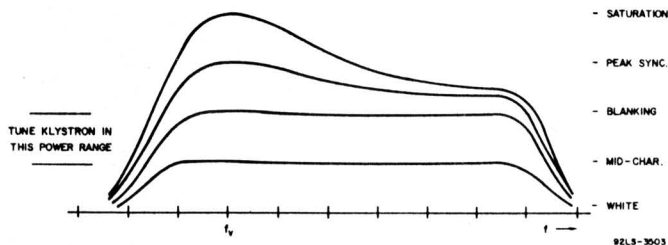

Figure 4 — Bandpass at various power levels
3. Vary the RF drive between white and blanking level. The bandpass should remain flat but show enhancement in the carrier vicinity with higher output power in accordance with **Figure 4**.
9. The bandpass should remain flat with varying rf drive between white and blanking level but will show an enhancement in the carrier vicinity with higher output power as shown in Figure 4.